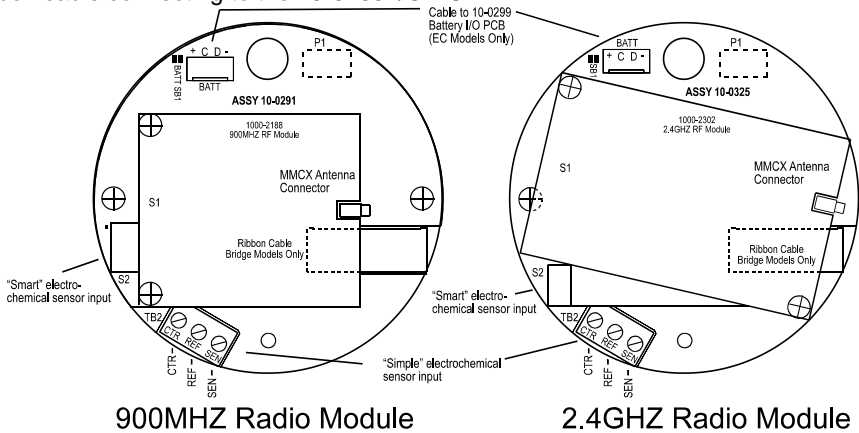
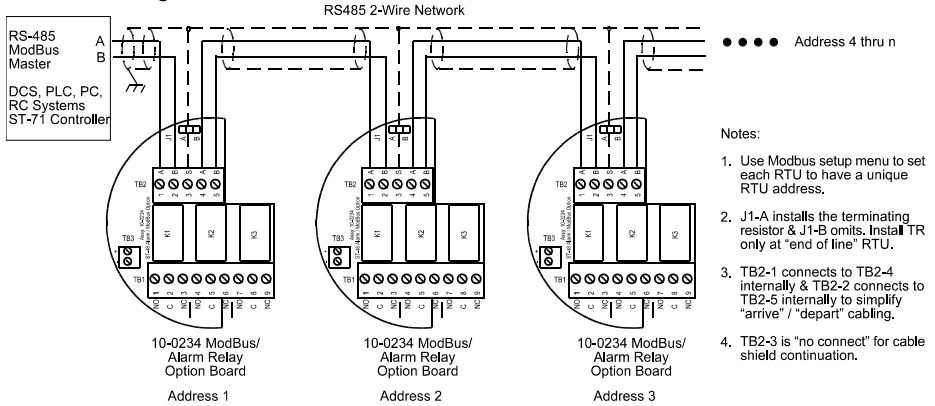
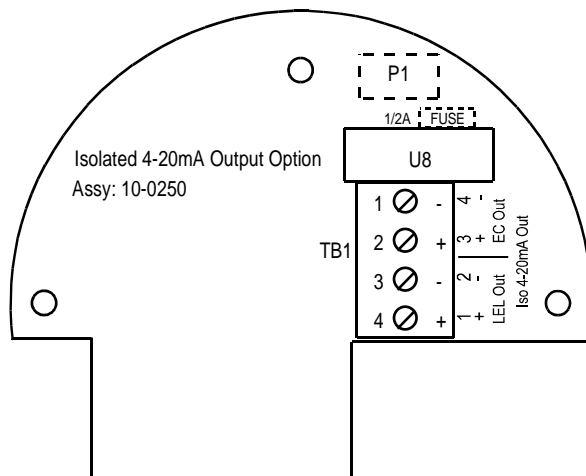

**Figure 2-5: 10-0233 I/O Power Supply / 3-Wire 4-20mA Assembly**
**Figure 2-10: 10-0234 Alarm Relays / Modbus Option**
Figure 2-12: 10-0250 Isolated 4-20mA Output Option
3-wire sourcing transmitters require an additional dedicated 24 VDC wire. The 4-20mA loop current is then delivered, or sourced, from the transmitter output and the receiver device must not provide 24 VDC from its input terminal. When the OLCT 200 is equipped with the bottom 10-0233 I/O Power Supply board shown in Figure 2-5, the 2-wire 4-20mA output is disabled and one of the 10-0233's 3-wire outputs must be used. TB2 terminal 2 is for ECHEM toxic / oxygen 3-wire 4-20mA output signals and TB2 terminal 3 is for LEL 3-wire 4-20mA output signals.
Unscrew the cover on the OLCT 200 explosion-proof enclosure. Loosen the 2 thumbscrews holding the display assembly in place and remove it. A small ribbon cable is attached with sufficient length to allow access to the I/O PCB mounted in the bottom of the enclosure (Figure 2-5). Power and signal connections are to TB2 where 24 VDC, Signal and Common wires must be connected. A blocking diode protects the OLCT 200 if polarity of the power supply is reversed but it will not operate.
The optional 10-0234 Alarms/RS-485 Modbus board supplies two level alarm relays, a FAULT relay and an RS-485 Modbus RTU slave port (Figure 2-10). This board is “piggybacked” behind the 10-0232 Display Assembly (Figure 2-3). Addition of this option requires 3-wire mode 4-20mA operation and thereby requires the 10-0233 I/O Power Supply board (Figure 2-5). This is since relays and RS-485 circuits require much more power than 2-wire 4-20mA loops can deliver.
The optional 10-0250 Isolated 4-20mA option (Figure 2-12) provides dual 4-20mA outputs that are electrically isolated from sensor inputs and the 24 VDC power source. Each 4-20mA output share the same common terminal and are not isolated from each other. This board is “piggybacked” behind the 10-0232 Display Assembly (Figure 2-3). Addition of this option requires 4-wire mode 4-20mA operation and thereby requires the I/O Power Supply board (Figure 2-5).
**CAUTION:** 10-0247 Smart sensor heads with electrochemical toxic / oxygen sensors must connect to S1 located on the back of the 10-0232 Display Assembly (Figure 2-3). 10-0247 Smart sensor heads with catalytic bead, Infrared, or PID sensors must connect to S1 located on the optional I/O PCB assembly (Figure 2-5).